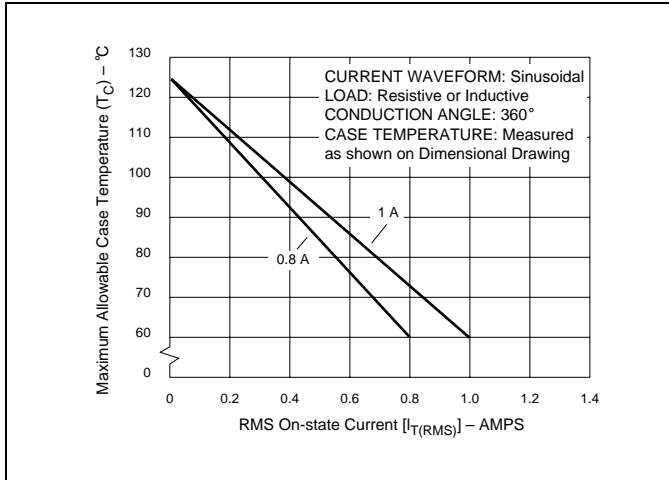
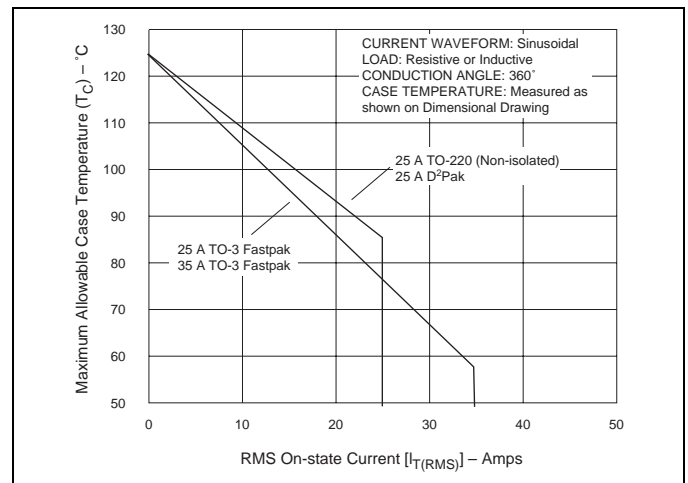
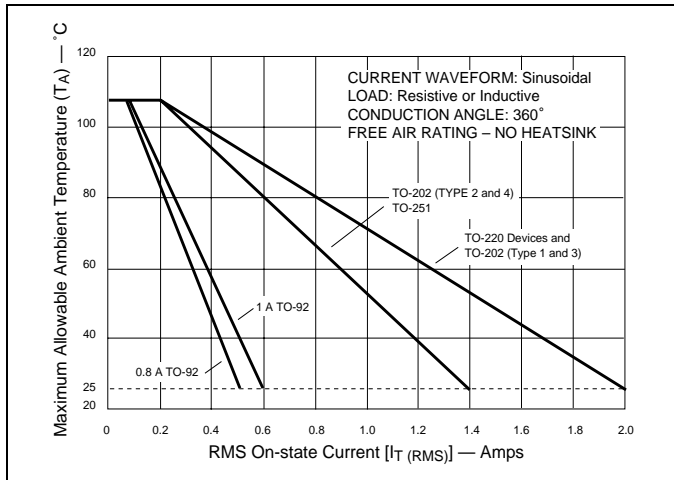

Figure E2.1 Maximum Allowable Case Temperature versus On-state Current (0.8 A and 1 A)
Figure E2.6 Maximum Allowable Case Temperature versus On-state Current (25 A and 35 A)
Figure E2.7 Maximum Allowable Ambient Temperature versus On-state Current
- See Figure E2.1 through Figure E2.7 for current rating at specific operating temperature.
- See Figure E2.1 through Figure E2.6 for maximum allowable case temperature at maximum rated current.